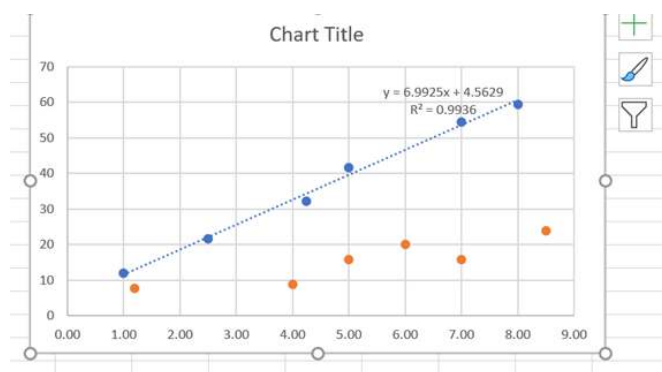

Figure 10
- At this point, you should see the new data points as shown in Figure 10. You can now independently analyze the second dataset by inserting a trendline as before.